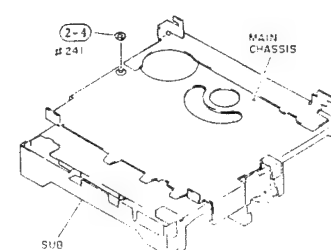

Fig. 2-55
- 4) Remove one (1) washer holding the middle pole shaft. (See Fig. 2-55)